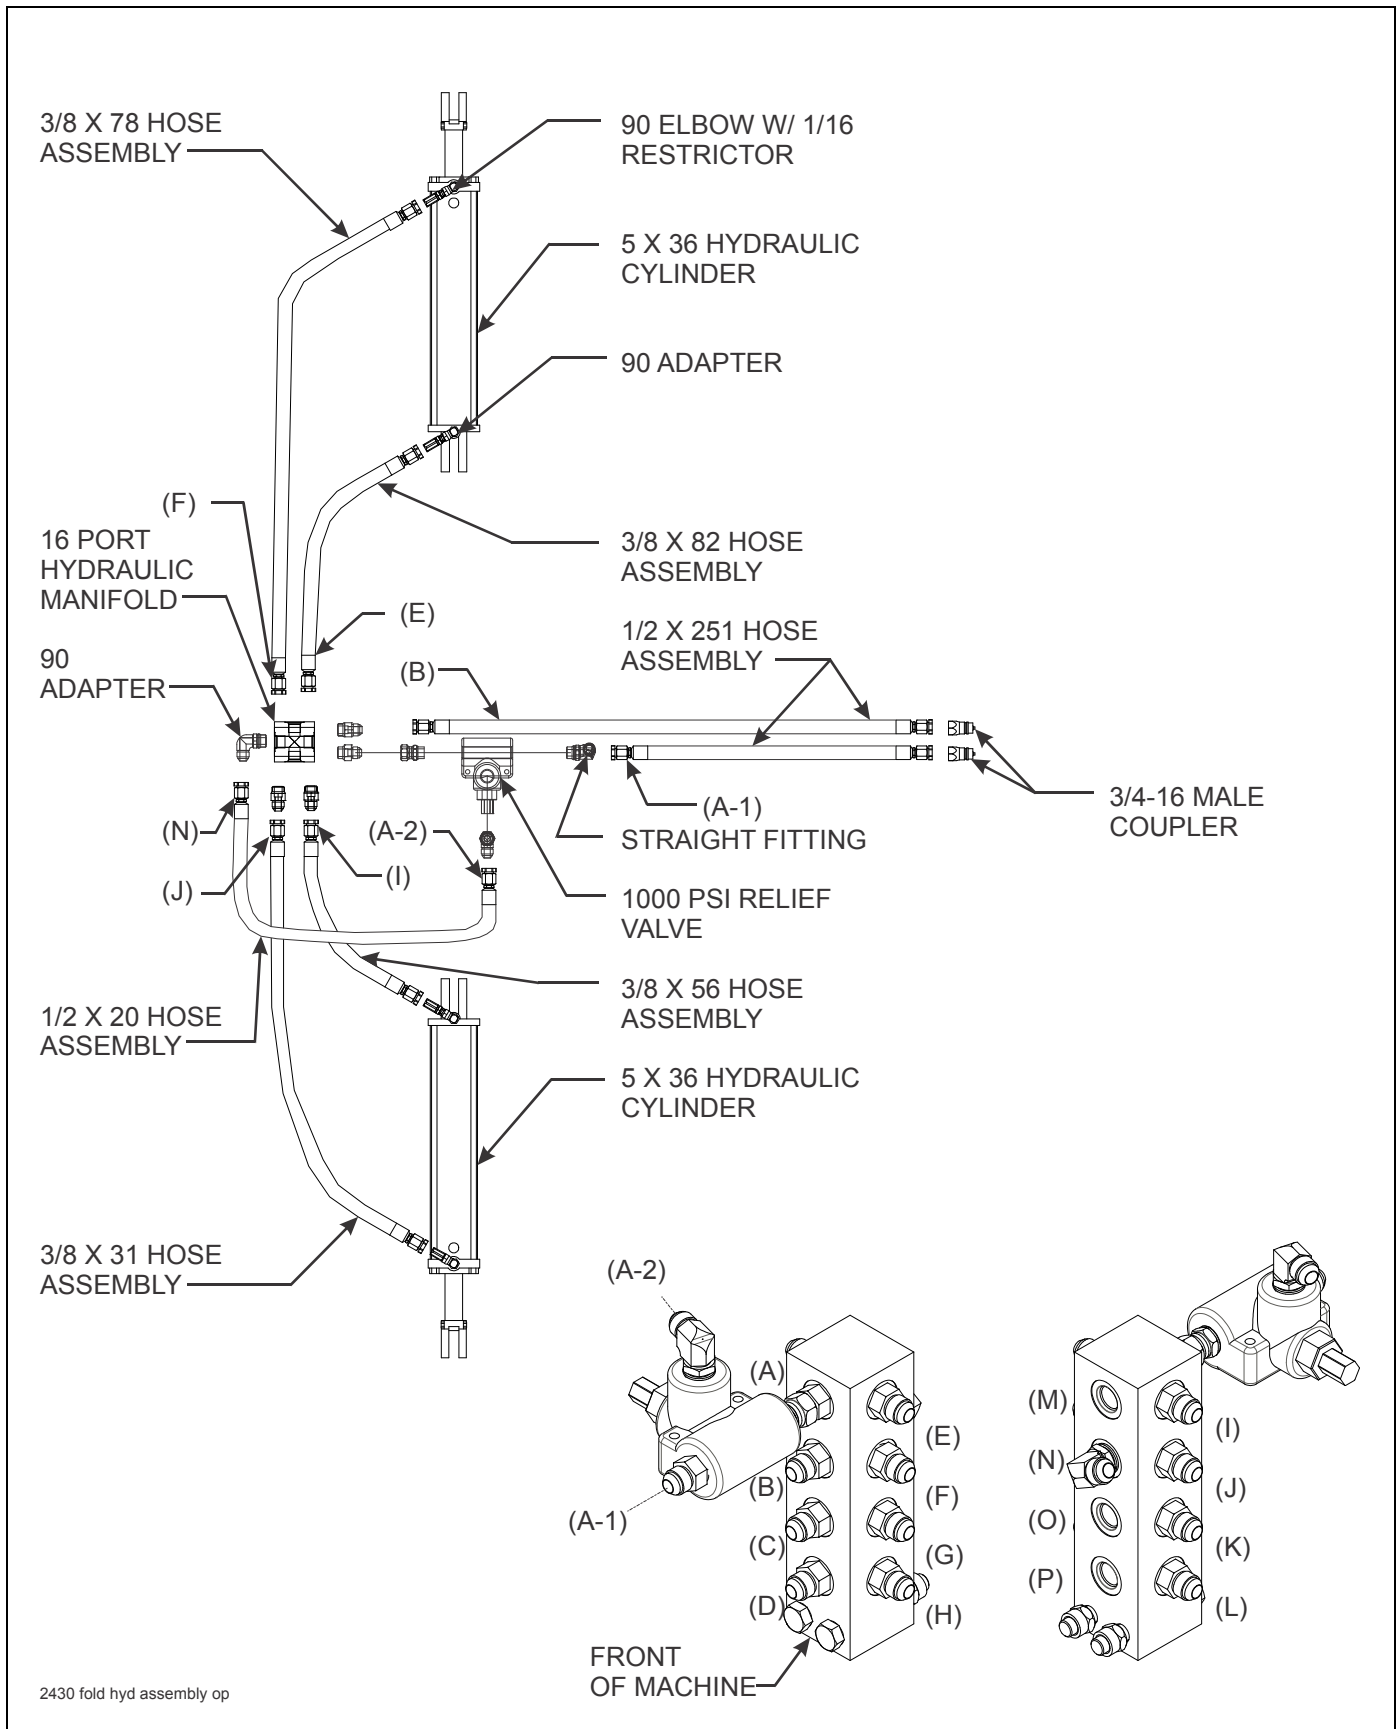

Figure 3-10: Hydraulic Fold Installation (2430-11-24 & 2430-13-24)
5. Install wing fold system hoses per **Figure 3-10**.